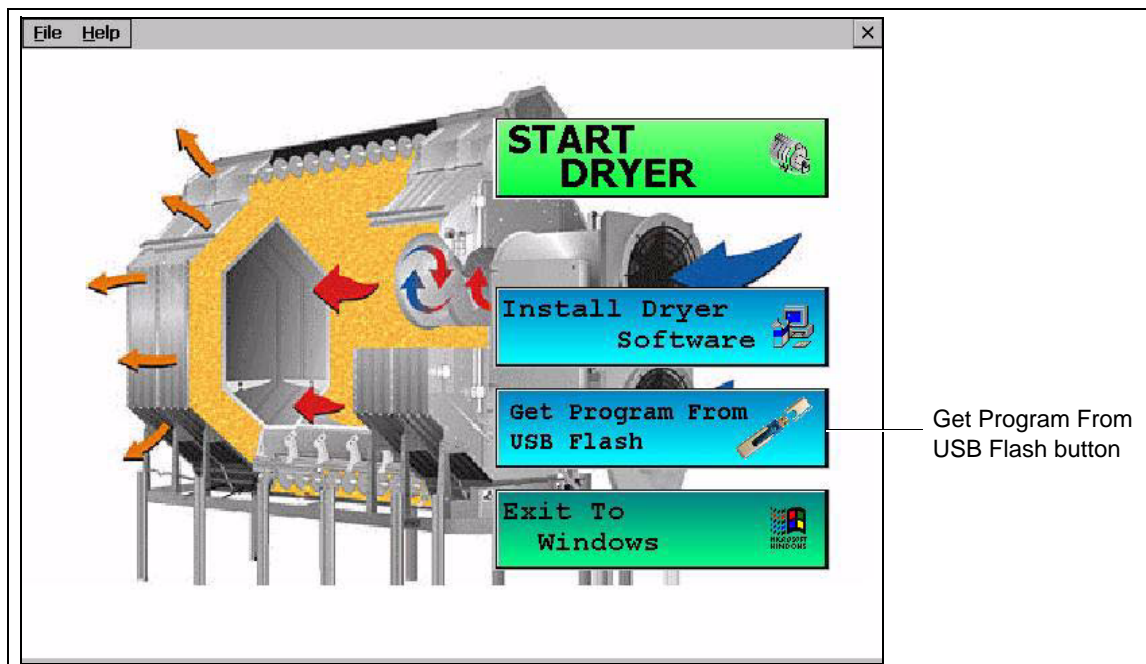

Figure 4C
2. When the “Boot Screen” appears, touch the “Get Program From USB Flash” button. (See Figure 4C.)